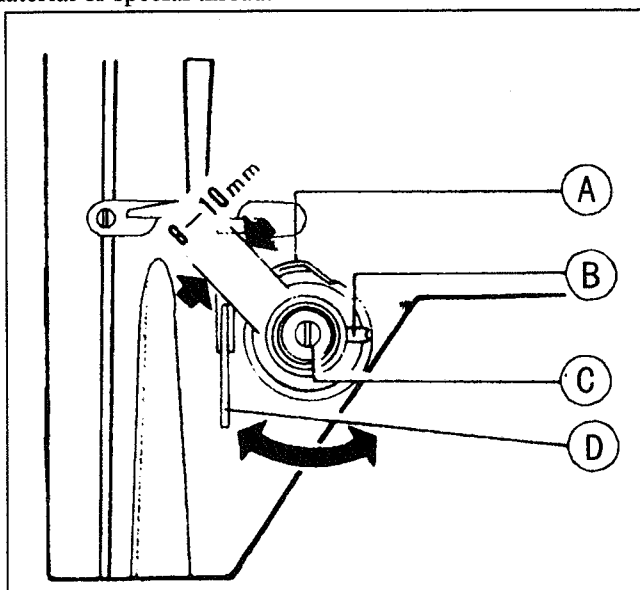
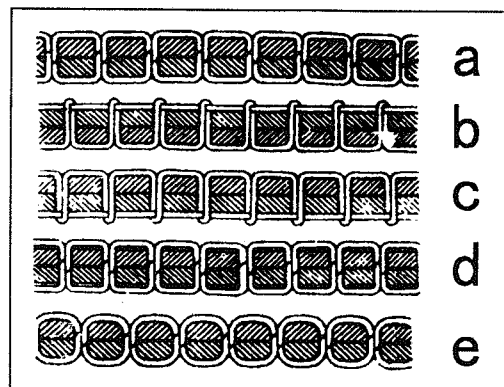

Fig. 15
Fig. 16
15. ADJUST THREAD GUIDE AND THREAD TENSION (Fig.16,17)
1) In case needle thread tension is too strong or bobbin thread tension is too weak, as shown in Fig.15 (b), turn the thumb nut counterclockwise to decrease the needle thread tension, or tighten the tension spring regulating screw of bobbin case to increase the bobbin thread tension (See Fig.16)
2) In case needle thread tension is too weak or bobbin thread tension is too strong, as shown in Fig.15 (c), turn the thumb nut clockwise to increase the needle thread tension, or loosen the tension spring regulating screw of bobbin case to decrease the bobbin thread tension.
3) In case of the stitch forms as shown in Fig.15 (d) and (e), adjustments can be made with reference to the above means.